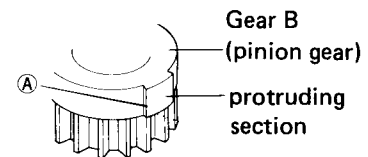

Fig. 6-2 Elimination of pinion gear protrusions.
If there are rough areas of plastic protruding from the ① section of the protruding section of the pinion gear, the return function may operate at a pitch of only 1mm. In this case, remove the plastic protrusions completely (Fig. 6-2).